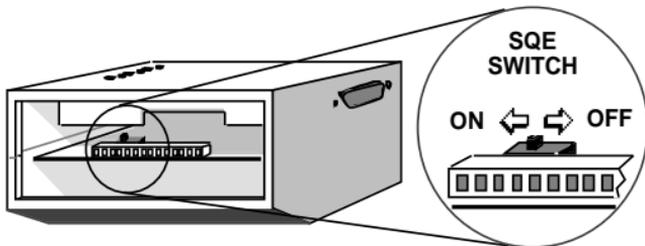

Figure 2-1. SQE Switch
If the tap is already installed on the transceiver, remove the two flat-head screws securing the tap to the transceiver case. Then remove the tap to gain access to the SQE switch. Refer to Figure 2-1 for the location of the SQE switch and how to set it to enable (ON) or disable (OFF) the heartbeat test feature.